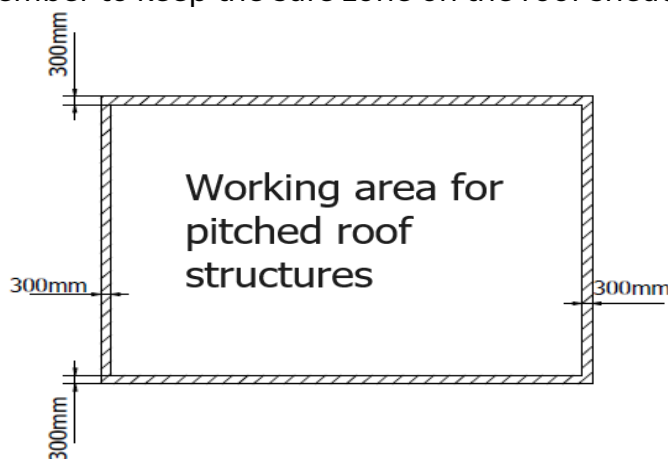

FIGURE. 1 Working area for pitched roof structures
- #### 2. The layout of the modules shall be arranged to minimize or preclude the appearance of shadows on the modules. Keep in mind that even the shadow cast by trees or buildings can limit the yields generated by modules. When mounting the system in the summer, be aware that the shadow cast by trees and neighboring buildings will reach much further in the winter. Also, remember to keep the safe zone on the roof sheathing (figure 1).